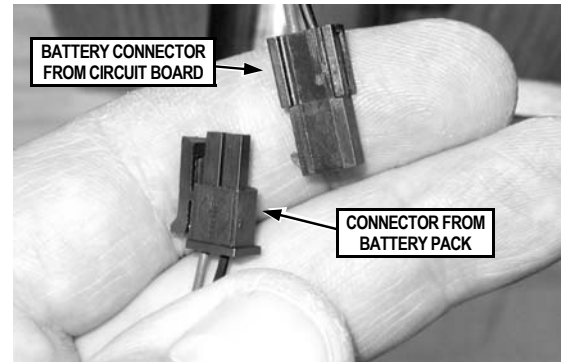

FIG. 17: CONNECT THE BATTERY PACK
6. Plug the battery connector into its receptacle. See Fig. 17. Upon connection of the battery pack, you will hear three beeps.